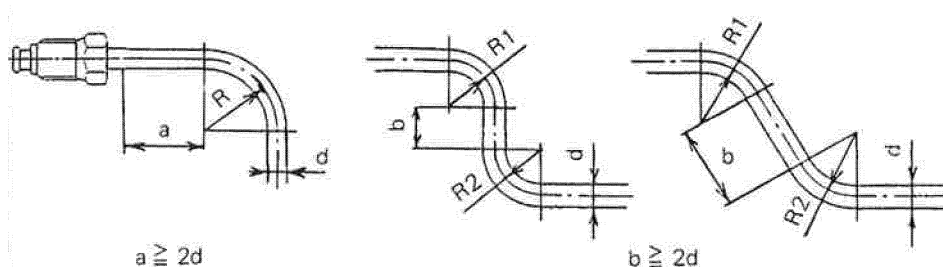

Fig. 3
- The required length of the straight portion of the line end and the bent portion must conform to the dimensions specified in Fig. 3.